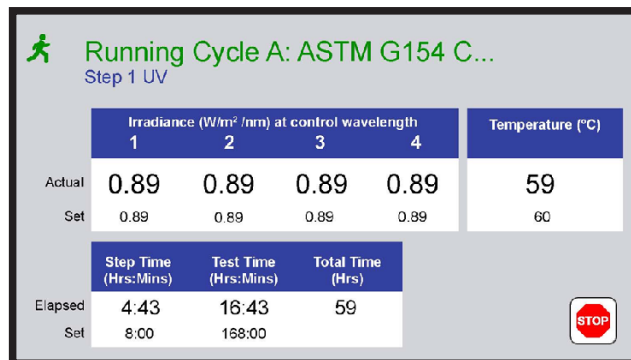

Figure 9.1b: Status screen displaying typical operating conditions.
- The Status Screen is on the left and the Menu Screen is on the right (Figure 9.1b, Figure 9.1c)